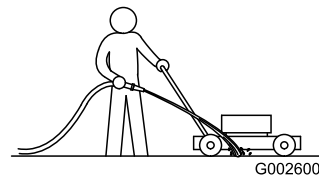

Figure 36
1. With the engine running on a flat paved surface, spray a stream of water in front of the **right** rear wheel (Figure 36).